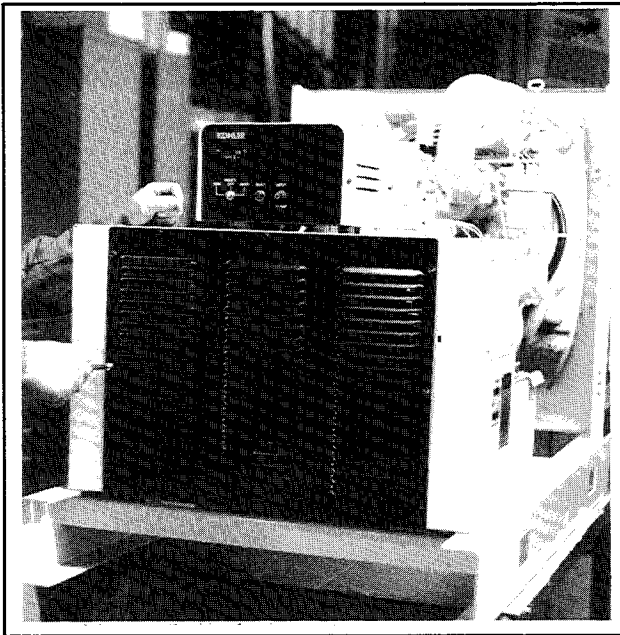

Figure 8-1. Removing Junction Box Rear Panel
2. Remove nine screws securing junction box rear panel and remove panel. See Figure 8-1.